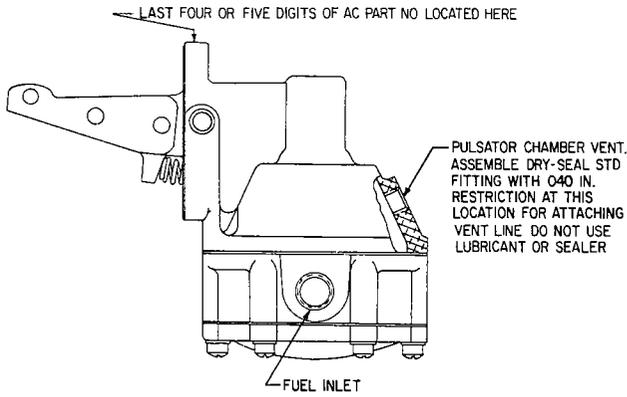

Figure 1. AC Fuel Pump with Vent in Upper Chamber
All the fuel pumps affected by this bulletin have a single vent opening in the upper chamber as shown in figure 1, except the P/N 73870 (AC 5658696) which has
1. Determine applicability of this procedure by observing the AC fuel pump part number stamped on the upper edge of the mounting flange as shown in figure 1. Only the last four or five digits of the AC part number are stamped on the pump.